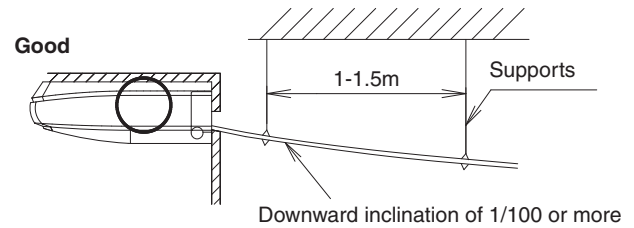
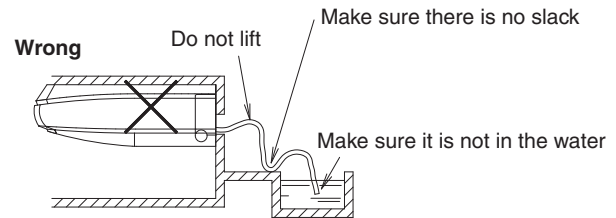

Fig. 23
Fig. 24
- Select the piping diameter equal to or larger than that of the drain hose (1) (accessory) (polyvinyl chloride piping, nominal diameter 20mm, outside diameter 26mm).
- Install the drain piping as short as possible with downward inclination of 1/100 or more by avoiding air stagnation. (Refer to **Fig. 23** and **Fig. 24**)
- Install supports at a distance of 1 to 1.5m so that the piping may not deflect. (Refer to Fig. 23)